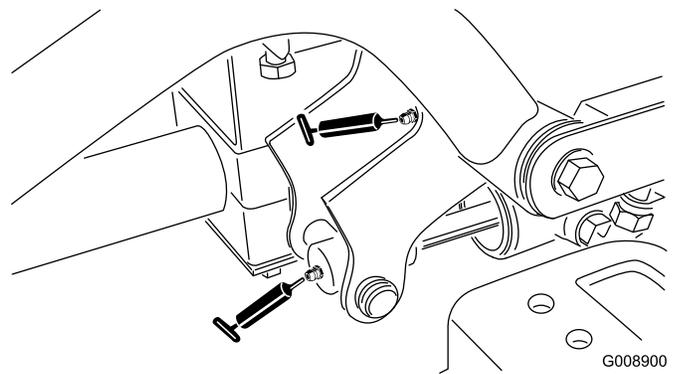

Figure 39
- Right front lift-arm pivot and lift cylinder 2 (Figure 39)